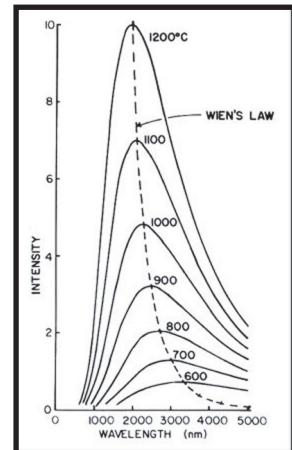

Figure 1.
And one value of writing this equation is, we can define an object that is *a perfect absorber of incident radiation*—a **blackbody**. Let me re-emphasize the **blackbody**'s characteristics in different words—*radiation from any angle and at any wavelength is absorbed with zero reflection and zero transmission*. Of course, if absorption was all a **blackbody** did, its temperature would become infinite and that can't happen. So, while it's a perfect absorber, it is also a perfect emitter. It's a neat concept made even neater because it lets some smart people predict the energy emission spectrum (intensity vs wavelength) and show it depends *only* on the body's temperature. (*see figure 1*)
- Don't know the glass-type but all glasses transmit some IR. Fused silica, for example, is still transmitting out near 4000nm. Wien's law (*see figure 1*) shows much of the energy from a 600°C heater is emitted at wavelengths shorter than 4000nm and, therefore, slips right through silica without a backward glance.